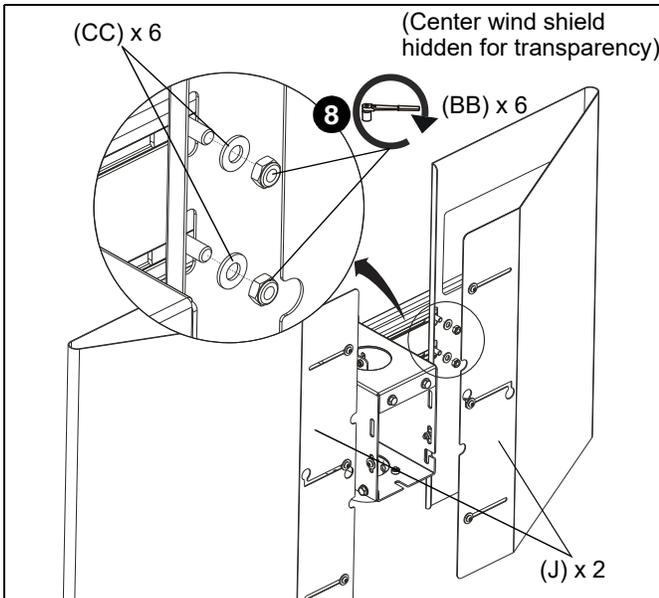

Figure 14
- Use six 5/16-18 hex nuts (BB) and six 5/16 inch washers (CC) to secure six wind shield connectors to side wind shields (J). (See Figure 14)